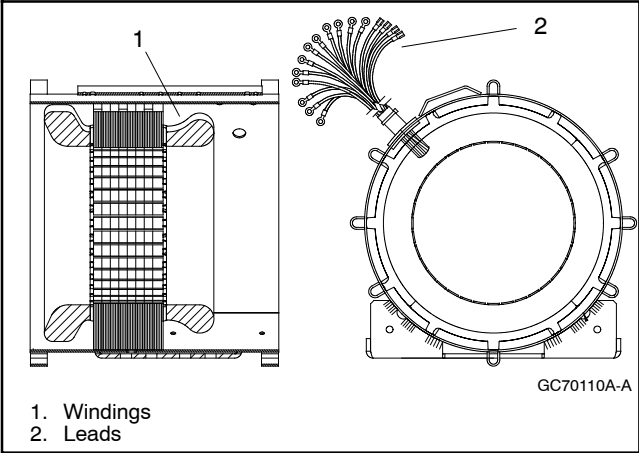

Figure 7-13 Stator Assembly
4. Visually check the stator assembly for shorted or open winding(s). See Figure 7-13.